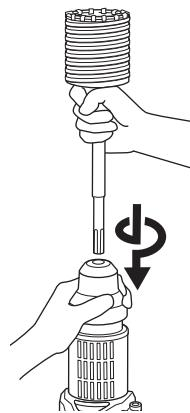

Fig. 18
## (2) Mount the core bit shank to the Rotary Hammer. (Fig. 18)